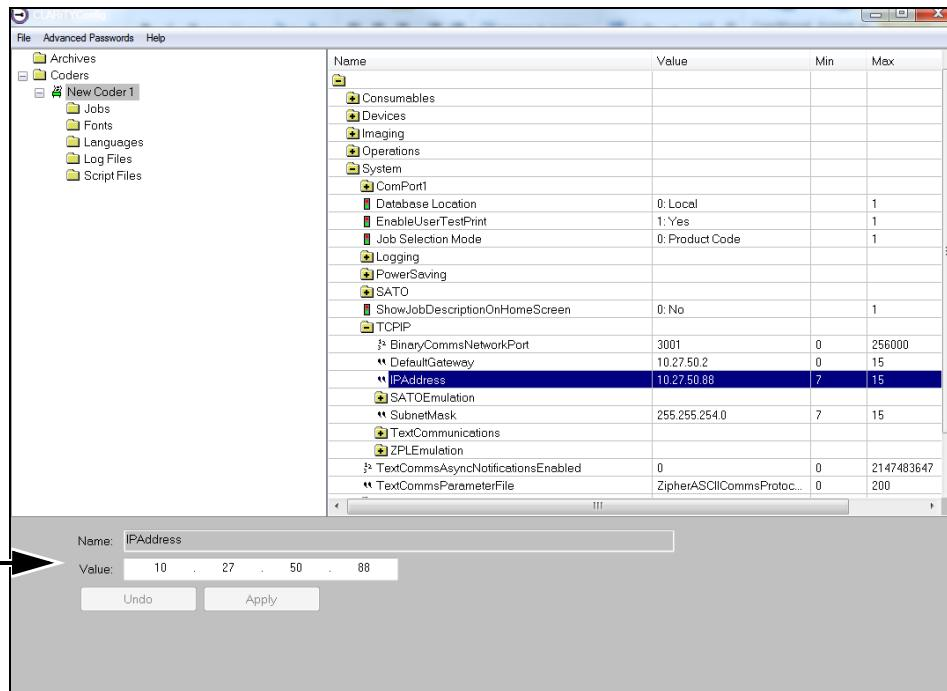

Figure 5-6: TCP/IP Configuration Parameters
- 3 Locate the TCP/IP configuration parameters as shown in Figure 5-6.